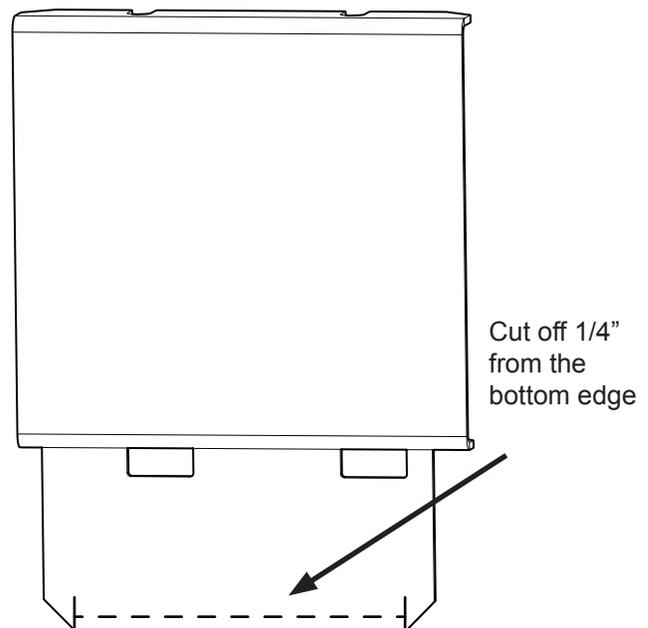

Figure 5: Cut off 1/4" from the bottom edge.
11. Cut off 1/4" from the bottom edge using a cutting tool such as a shear, cut off wheel, band saw, or reciprocating saw (Figure 5).